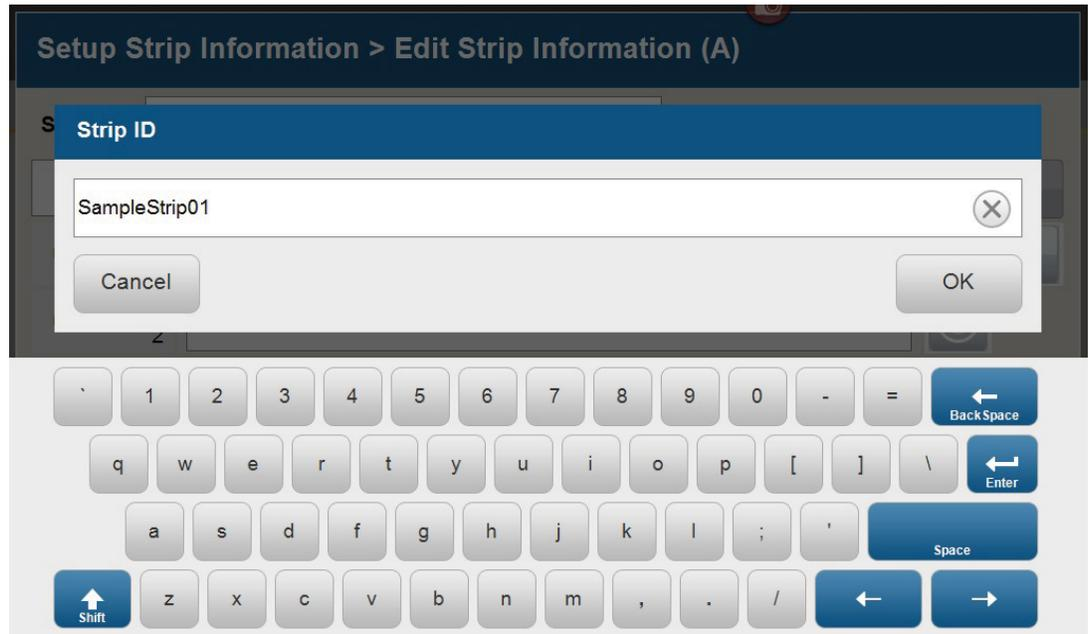

Figure 11. 'Set Strip ID' window.
- The default Strip ID is date and time. It can be modified by selecting the **Strip ID** box. This opens the 'Set Strip ID' window and a keypad will become active on the touch screen (Figure 11). Alternatively, the Strip ID can be entered using a traditional keyboard if one is connected to the Spectrum Compact CE System. Enter the appropriate Strip ID, and then select **OK** to exit and return to the 'Edit Strip Information' screen.